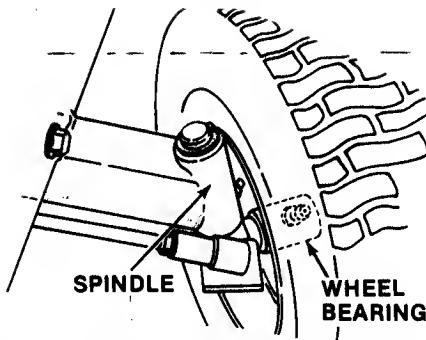

FIG. 13 - FRONT END GREASE POINTS
- **FRONT WHEEL BEARINGS:** Lubricate bearings through the fitting on hub of front wheel. See FIG. 13.
- **FRONT AXLE PIVOT & SPINDLES:** Lubricate spindle fitting on each wheel ( FIG. 13. ) and the center pivot fitting on underside of the front axle.